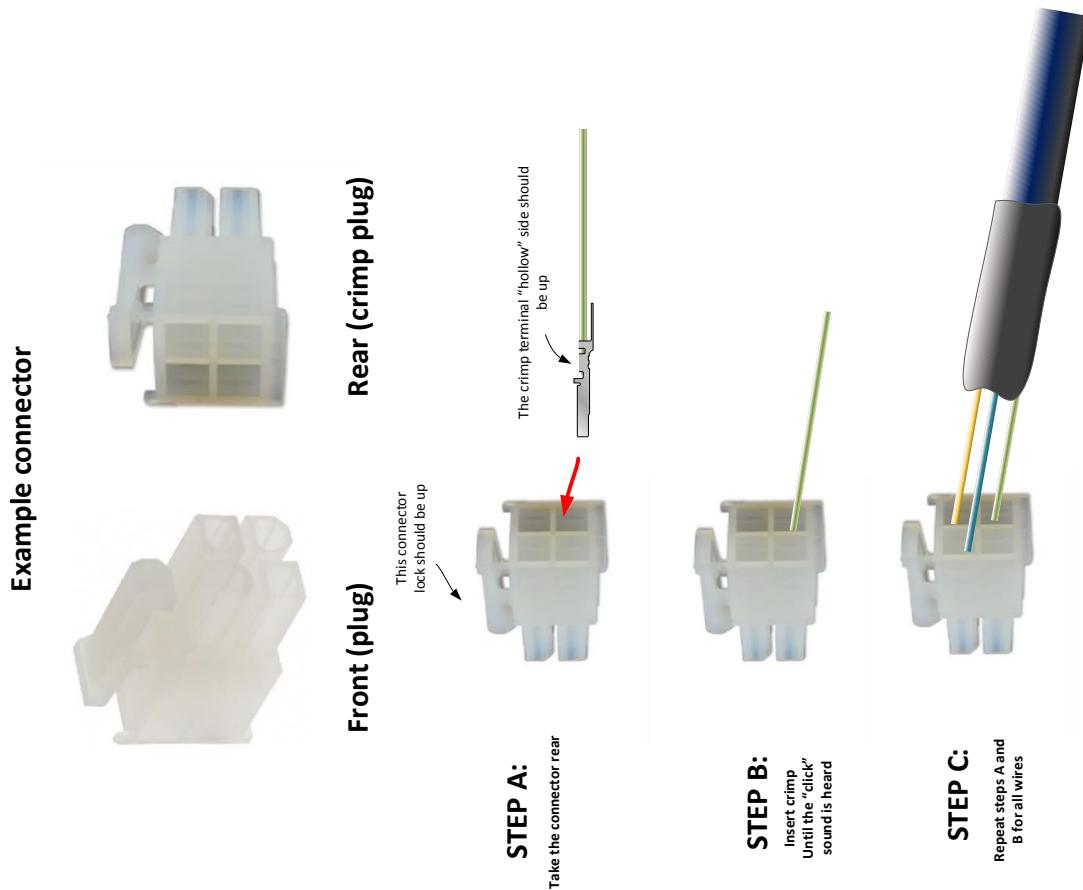

Figure 4.23: Crimping Molex Mini-Fit®: inserting the crimp terminals into the connector holes
9. Using the correct pinout for the concerning connector (which can be checked in section 3.9.1), insert each crimped terminal into the respective connector hole. A "click" sound must be heard, and this indicates that the crimp terminal is in the correct plug position and cannot be removed. Use figure 4.23 as a reference.